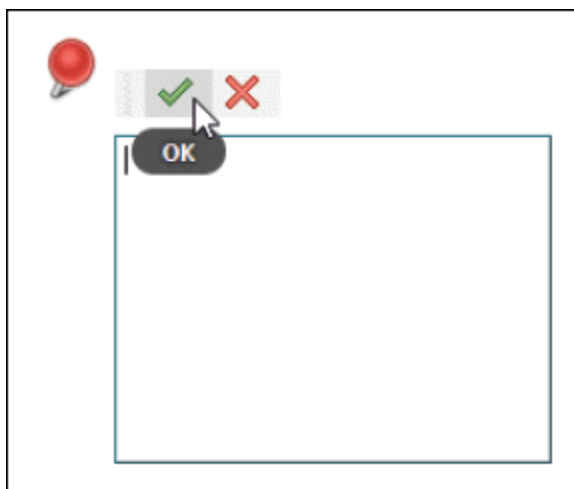

Figure-52. Callout text box
- Click on the component to add the callout. A text box will be displayed; refer to Figure-52.